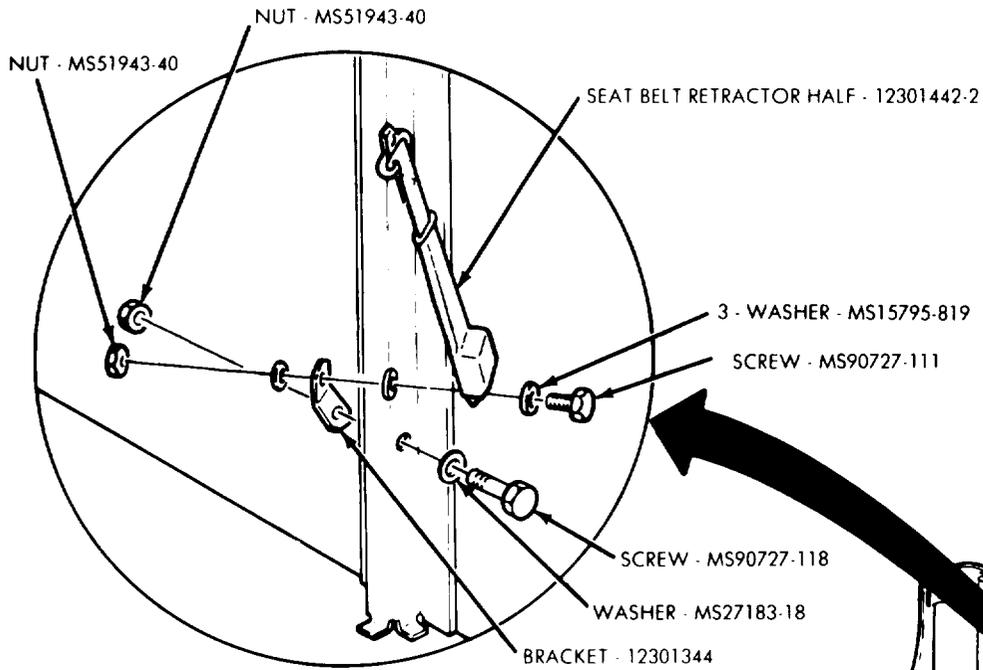

Figure B-8. Fixed Driver's Seat Belt Retractor Installation
b. Position 12301344 bracket to left vertical cab channel member and secure bracket with MS90727-118 screw, MS27183-18 washer, and MS51943-40 nut as shown in figure B-8. Tighten nut 20-25 lb-ft (27-34 N•m).
c. Position 12301442-1 seat belt retractor half to bracket and secure with MS90727-111 screw, three MS15795-819 washers, and MS51943-40 nut as shown in figure B-8. Tighten nut 20-25 lb-ft (27-34 N•m).